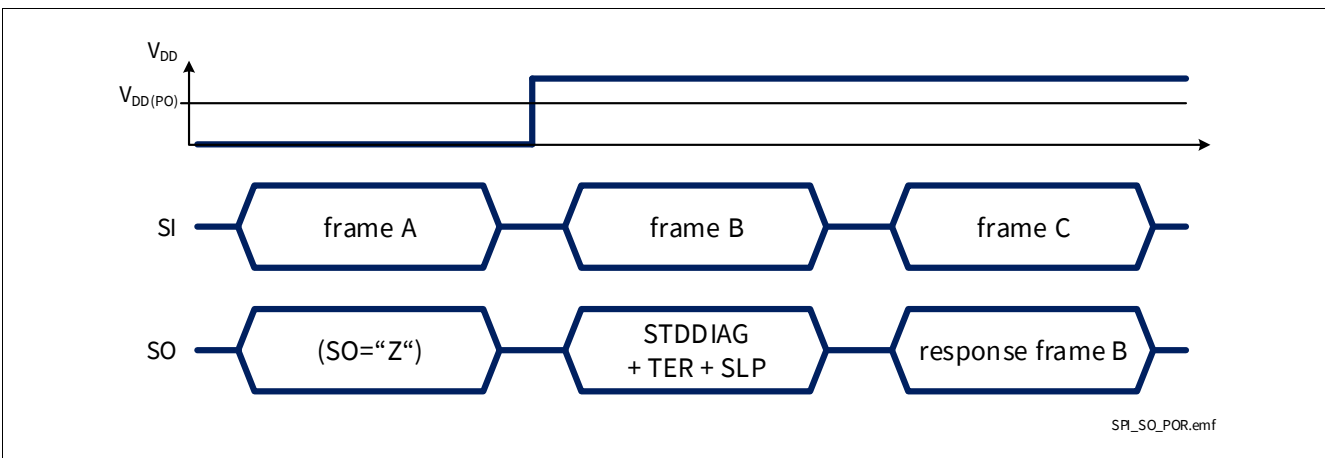

Figure 44 SPI response after coming out of Power-On reset at V_{DD}
- When BTS71033-6ESP digital supply comes out of Power-On reset condition, as shown in **Figure 44**